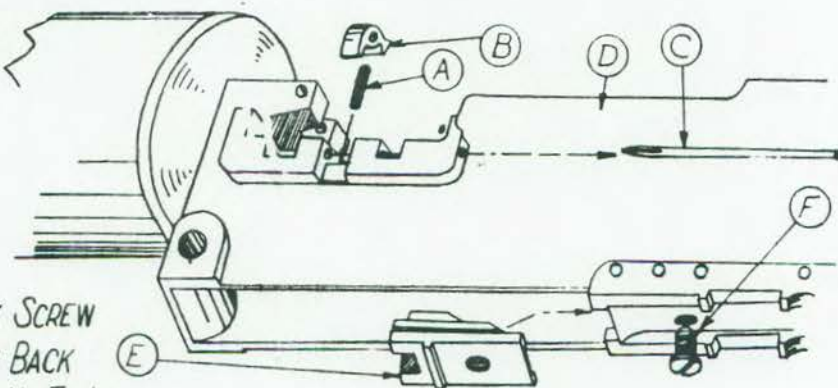

FIG. 1
PLACE SPRING (A) IN HOLE IN TOP OF BELT HOLDING PAWL BRACKET. PUT PAWL (B) IN PLACE AND INSERT PIN (C). NOW PLACE BREECHBLOCK CAM (E) INSIDE OF CASING (D) AS SHOWN IN FIG. 1. PUT IN LOCK SCREW (F) AND DRAW UP TIGHT. NOW BACK OFF LOCK SCREW (F) FROM $\frac{1}{16}$ TO $\frac{1}{4}$ TURN AND STAKE IN PLACE.